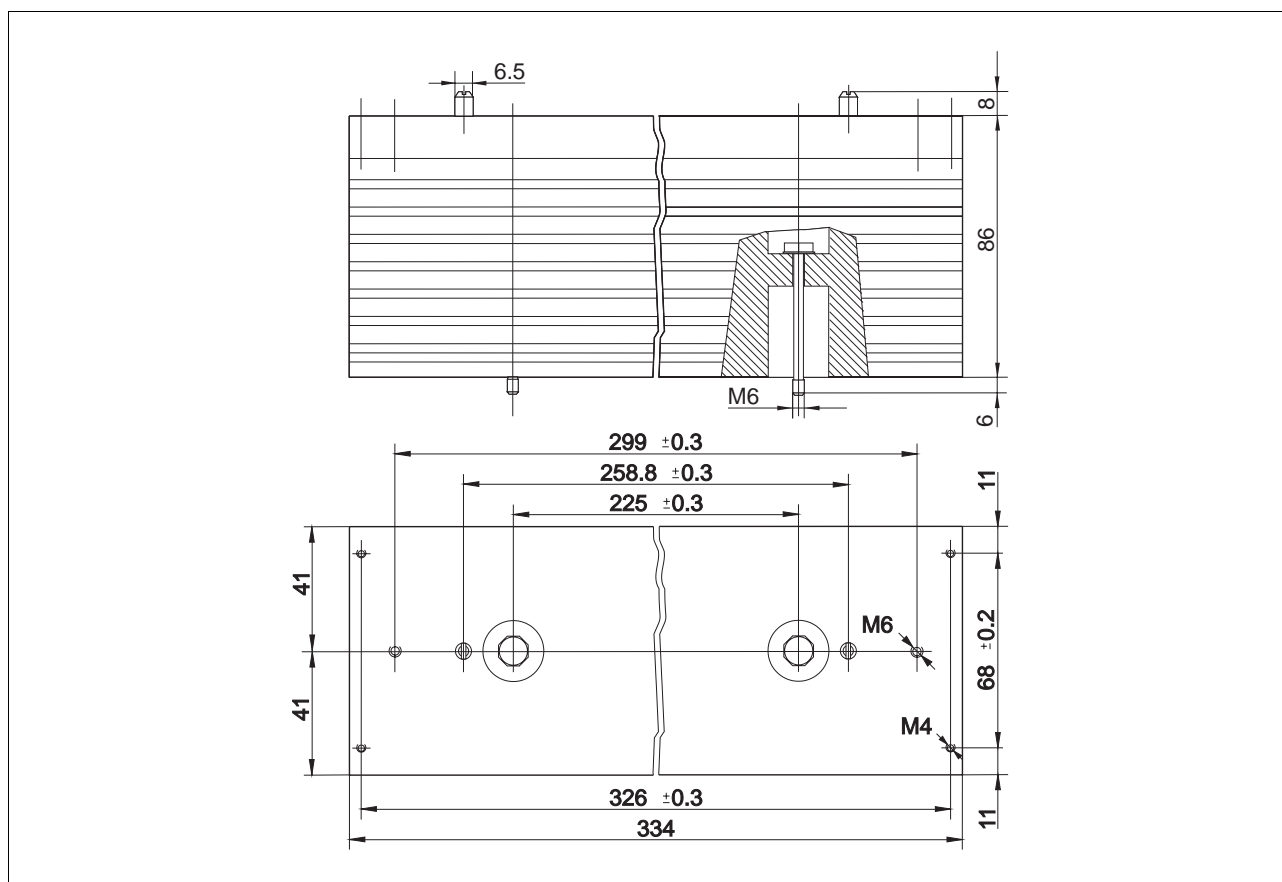

Fig. 6-13 Heat sink dimensions
3. Fasten the heat sink (fig. 6-13) to the mounting panel with two screws.
5. Fasten the heat sink (fig. 6-13) to the mounting panel with two bolts.
To check the heat sink size, a temperature measurement should be carried out at the mounting flange. The temperature at the mounting flange should be less than the prewarning temperature $T_{TEMP.INT}$ of the unit. See figure 6-13.